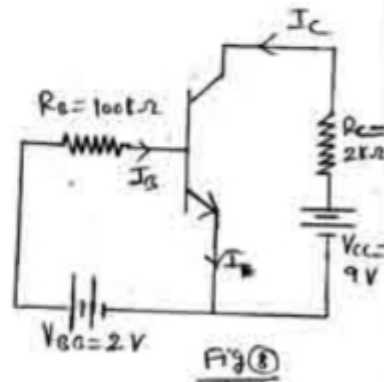

Fig 8
8) Fig 8 shows biasing with base resistor method.